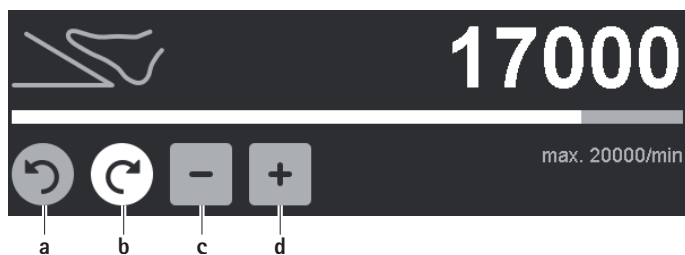

Fig. 6 Changing the maximum speed setting/rotational direction
- ▶ Change direction of rotation (except for drill tool GA844): Actuate the inactive, grey clockwise/counterclockwise rotation button **a/b**, see Fig. 6.